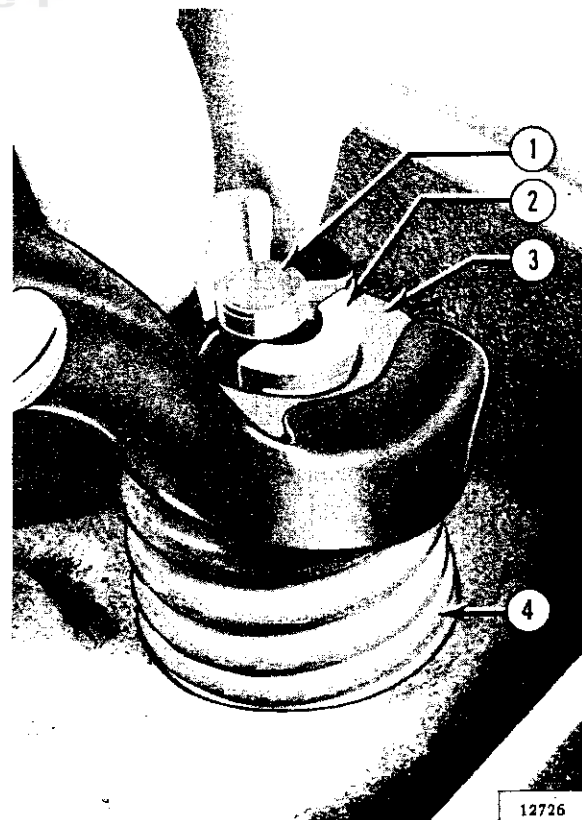

FIG. D1-27—REMOVING VALVE RETAINERS
- b. Remove each valve assembly from cylinder head as follows. Using suitable spring compressor, compress valve spring and remove two valve retainers from valve stem. Release spring compressor, and remove spring retainer and valve spring from valve stem. Refer to Fig. D1-27.